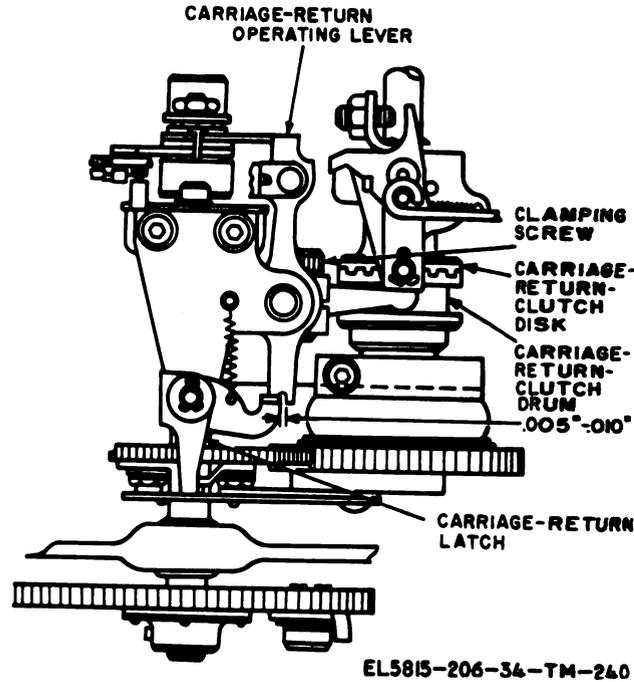

Figure 3-168. Carriage-return-clutch adjustment (TT-4A/TG and TT-698/TG).
a. Requirement. There should be 0.015- to 0.025-inch clearance between the carriage-return blocking lever and the adjusting plate when the carriage is at the left margin. The carriage-return-clutch drum and the carriage-return-clutch disk (fig. 3-168) should not touch each other when the carriage-return operation is selected while the carriage is against the left-margin stopscrew.
3-201. Carriage-Return-Clutch Adjustment (TT-4A/ TG and TT-698/ TG) (fig. 3-168)